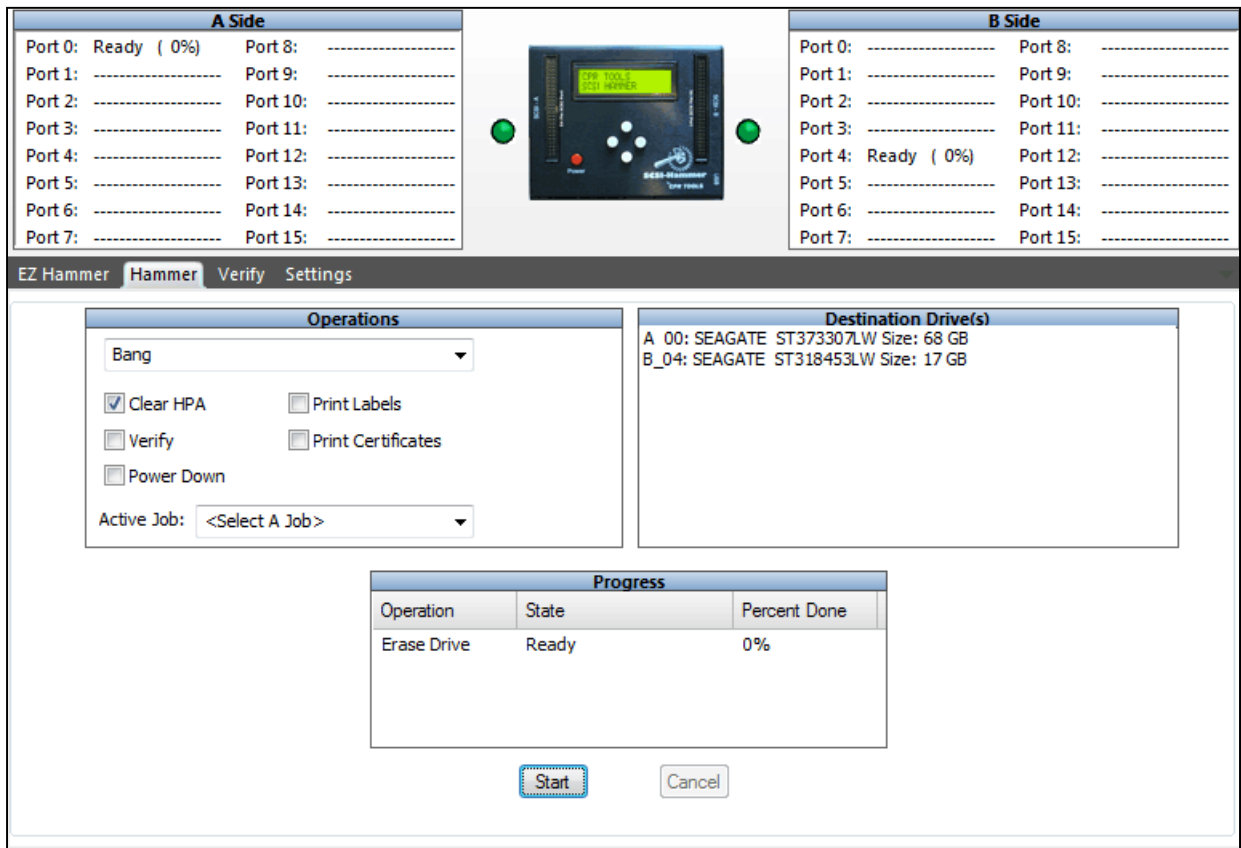

Figure 29 - The 'Hammer' Tab - CPR Toolbox
In the example shown in Figure 29, two (2) drives are connected to SCSI Hammer™, one on each 'Side' of the device.